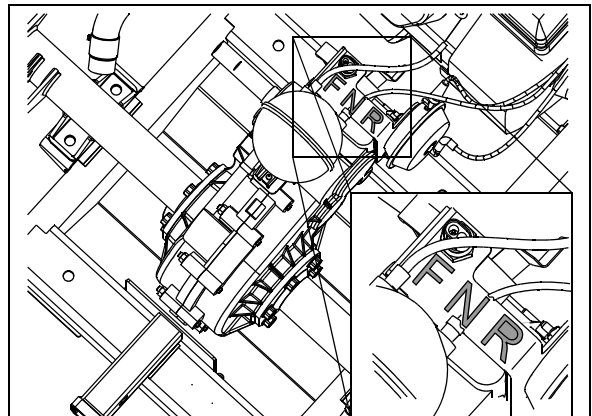

Figure 21
- Place shift lever into the neutral position. See Figure 21.